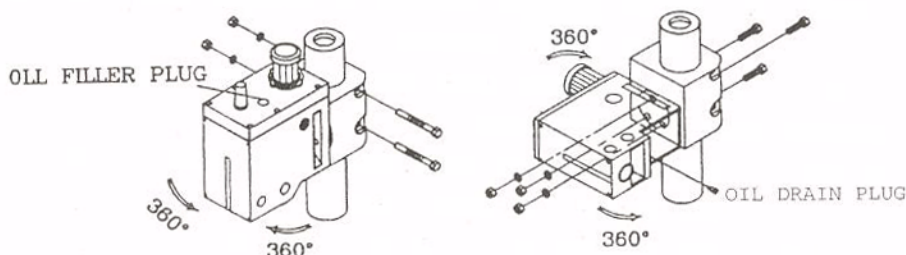

Fig.4
a) To raise and lower the head, loosen the two heavy duty head lock nuts shown in Fig.4. Use the left side head handle to raise and lower the head on its rack and pinion mechanism. When the desired height is reached, tighten the bolts to avoid vibration.